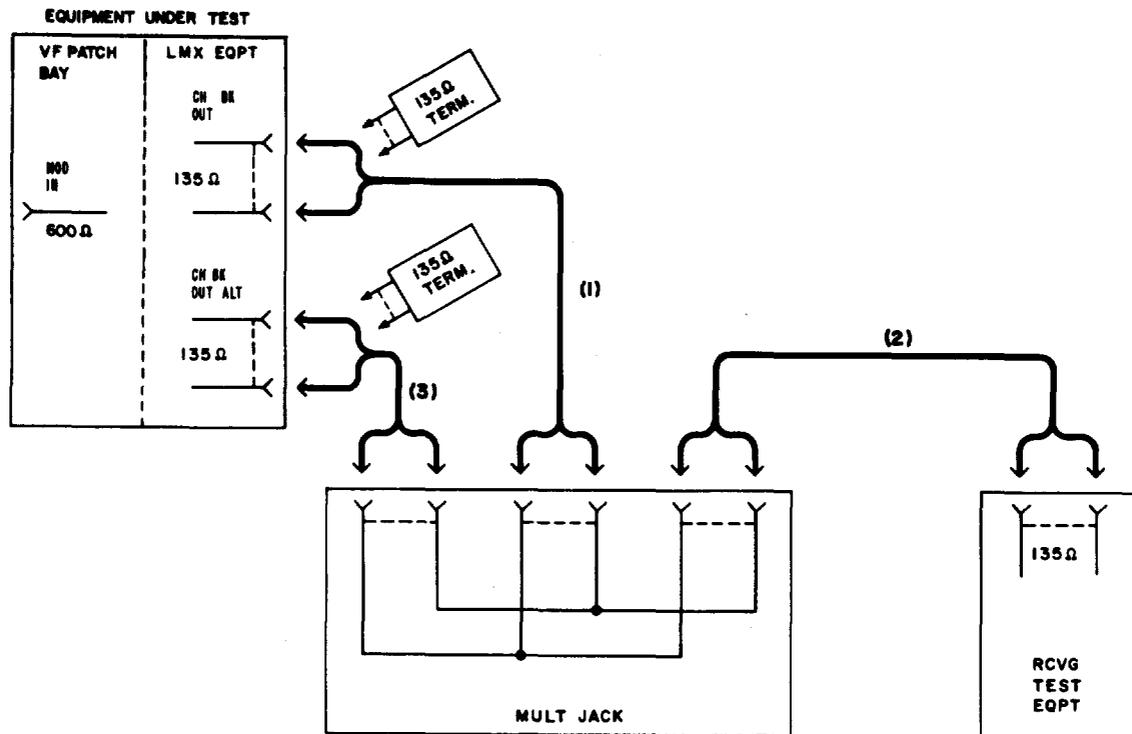

Fig. 15—Patching Diagram—Turnover Test
- 2 Connect the RTE (through a multiple jack) to the CH BK OUT jack of the channel bank under test [patches (1) and (2), Fig. 15].
- 4 Insert a 323A plug (135-ohm termination) in the CH BK OUT ALT jack (Fig. 15).
- 7 Connect the RTE (through the multiple jack) to the CH BK OUT ALT jack [patch (3), Fig. 15]
9	Remove patch (1), Fig. 15.
10	Insert a 323A plug (135-ohm termination) in the CH BK OUT jack (Fig. 15).
12	If the requirements of Steps 5, 8, and 11 are not met, <ul style="list-style-type: none">(a) Check (and correct, if necessary) the wiring between the channel bank hybrid output ports and either the CH BK OUT or the CH BK OUT ALT jacks.(b) Remove patch (3), Fig. 15.(c) Remove the 323A plug inserted in Step 10.(d) Reconnect patch (1), Fig. 15.(e) Repeat Steps 3 through 11(f) Repeat applicable steps in Charts 1 and 4.
14	Remove patch (3) in Fig. 15 and the 323A plug inserted in Step 10.
16	Remove patch (2), Fig. 15.